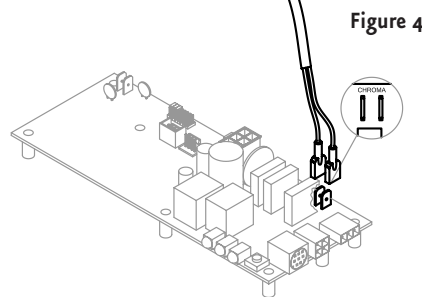

Figure 4
5. Connect the quick connect tabs to the control board in the generator at the location marked CHROMA, see figure 4.
- 10. Install the fixture lens flush with the ceiling (Fig.4)